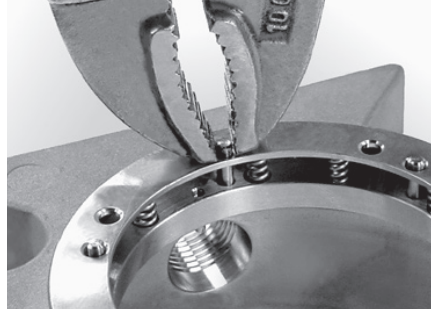

Figure 2
- 1.3 Remove the spring holder by pulling out the lock pins. See Figure 2.